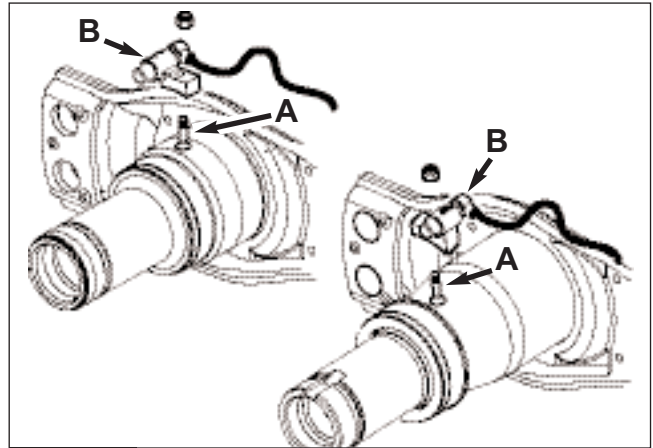

Fig. 7.3
All axle beams are provided with a sensor block mounting stud (A) welded to the axle beam (Fig. 7.3).
Locate the mounting block assembly (B) onto the welded stud, as shown in Fig. 7.3.